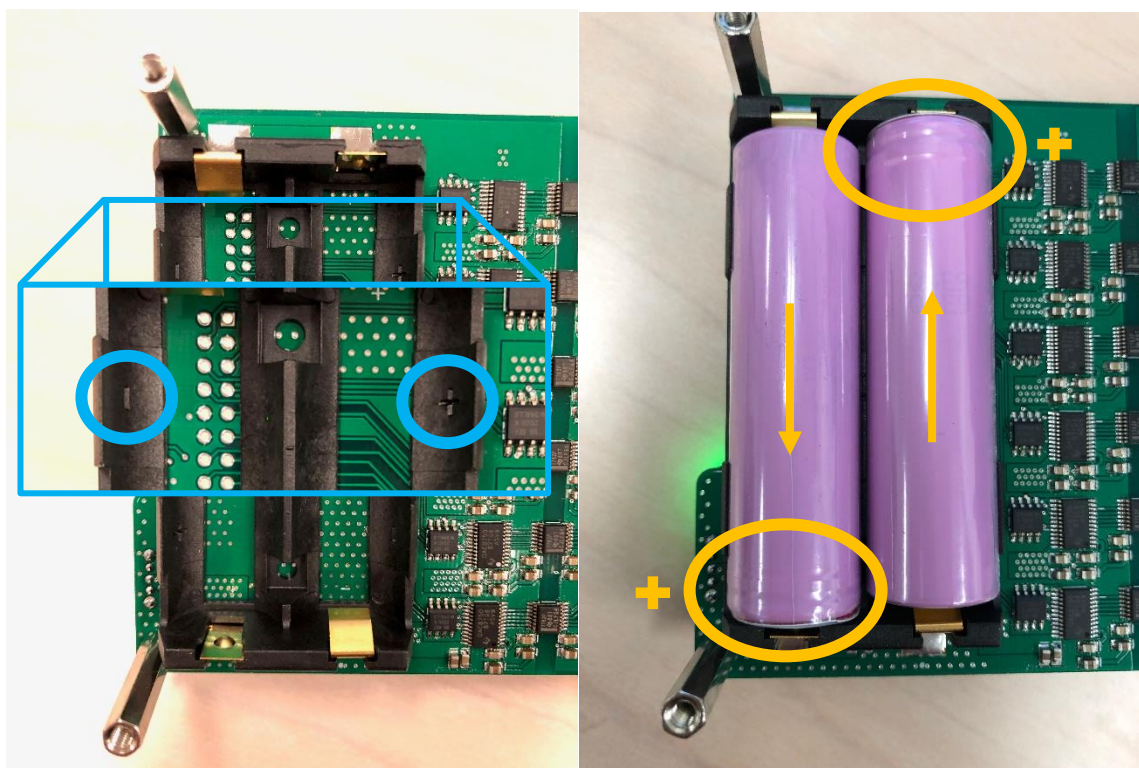

Figure 3. Bottom of OSC1Lite board (right: two 18650 batteries installed)
Step 1 Charge both batteries using the provided charger, then insert them into the battery holder on the bottom of the PCB (**Figure 3**). Notice the orientation of the +/- indents on the battery holder, as well as the positive terminals \(indented\) on each battery in **Figure 3**. Please do not drop OSC1Lite, as the batteries may fall out. Please read the user manual for the battery charger and adhere to all the cautions and warnings (**lithium ion batteries are extremely dangerous if not properly handled**).
2. Try pushing the batteries in the direction of the yellow arrows in **Figure 3**.